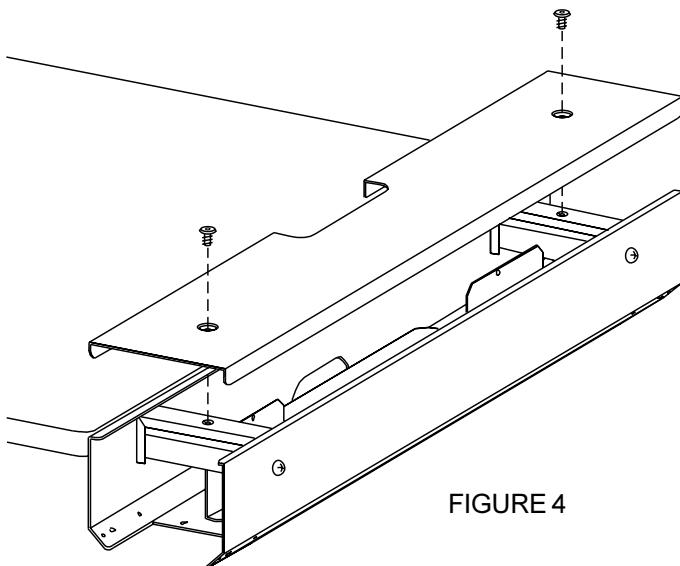

FIGURE 4
Attach bin cover using 1/4-20 x 7/8" flat head allen screws (CC) as shown in Figure 4.